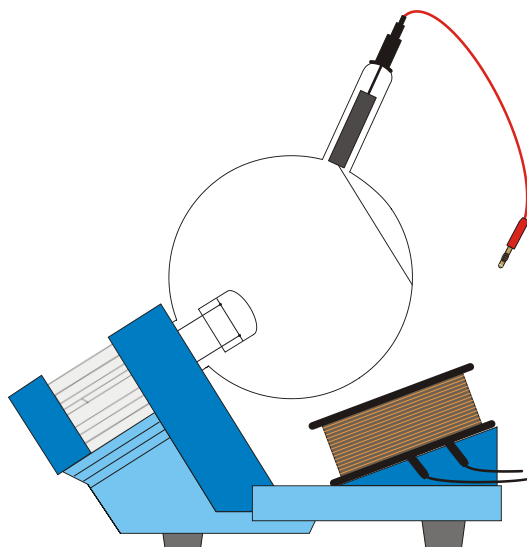

Fig.4 Set-up of the auxiliary coil
- Place the auxiliary coil on the tube holder as in fig. 4.